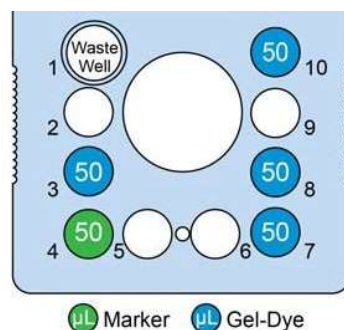
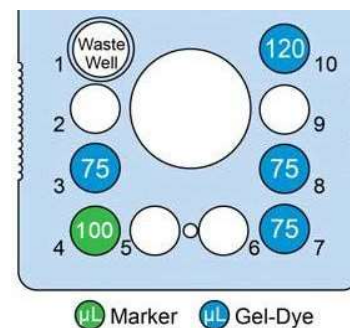

Figure 1. Low-Throughput Chip Preparation
Figure 2. High-Throughput Chip Preparation
2. Using a Reverse Pipetting Technique, add Gel-Dye solution to chip wells 3, 7, 8, and 10 as shown in **Figure 1 (LT)** or **Figure 2 (HT)**.
3. Add **50 µL (LT)** or **100 µL (HT)** of **ssDNA Marker** ● to chip well 4 as shown in **Figure 1 (LT)** or **Figure 2 (HT)**.